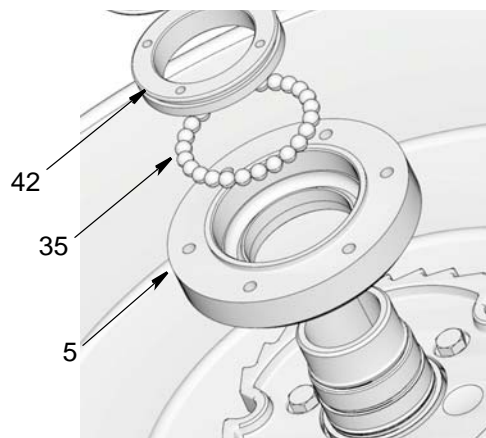

FIG. 20
- c. Remove bearing retainer (5).
NOTE: Be careful when you remove the bearing retainer (5) that the bearing balls (35) do not fall out (FIG. 20).